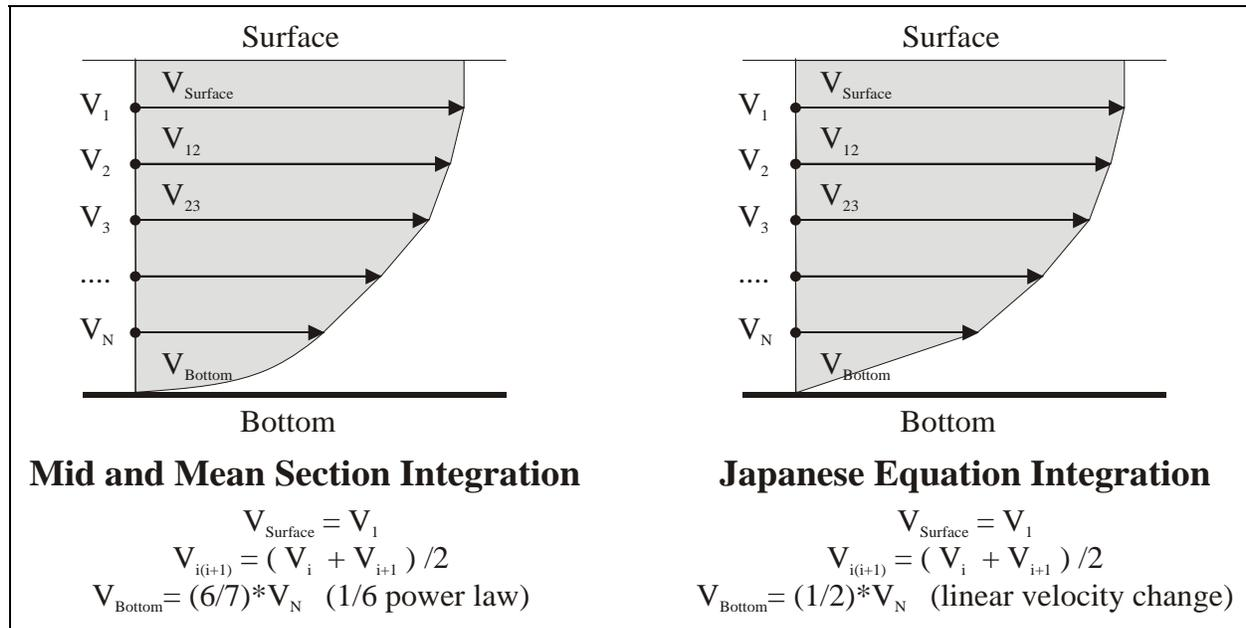

Figure 8 – Multiple Point Mean Velocity Integration
- The mean velocity is calculated by integrating all velocity measurements considering their location as illustrated in Figure 8.